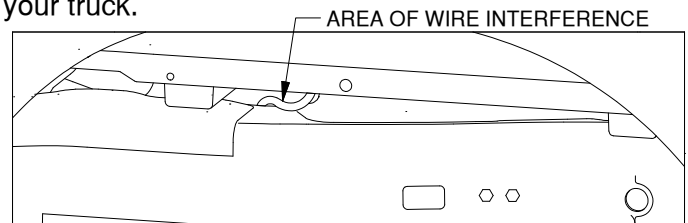

Figure D2: View looking into the driver side wheel well.
2. **Move wiring for handle install.** The handle may come into contact with part of the wiring harness running over the driver side of the frame, see Figure D2. Move the wire from this area of the frame by pulling the wiring down beside the frame in the inside of the truck. In some cases, fasteners may be present that will need to be pulled out of the frame. A wire tie may need to be used to keep the wire down out of the way of the handle. When correctly installed, no moving part of the handle should rub on any wires in your truck.